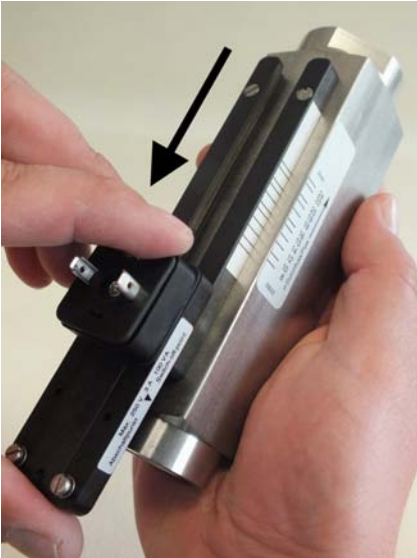

Fig. 61: Remove switch contact from guide rails
4. ➤ Remove the switch contact from the guide rails by sliding the switch contact in the direction of the arrow (Fig. 61).